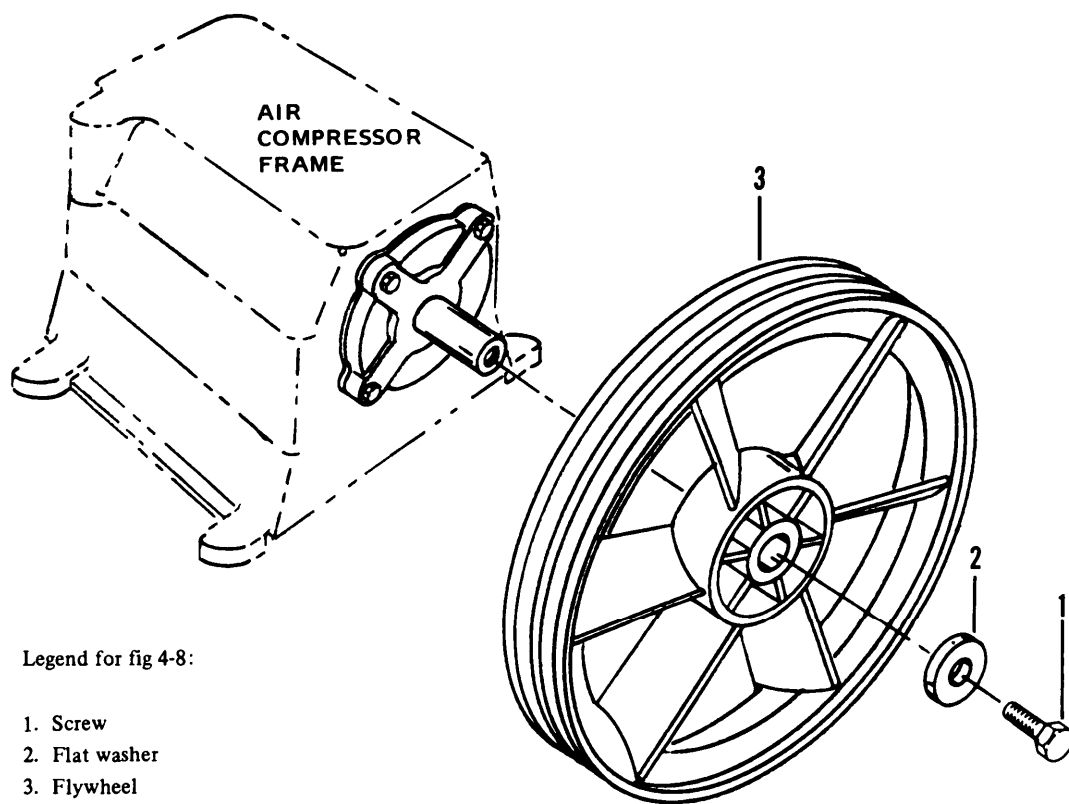

Figure 4-8. Flywheel
a. **Inspection.** Inspect flywheel (3, fig 4-8) for breaks, chips, and cracks in belt grooves and fan ribs. Any damage is cause for replacement.
Flywheel screw (1, fig 4-8) is left-hand thread. Turn clockwise to remove and counterclockwise to install.
b. **Replacement.** Unscrew and remove screw (1, fig 4-8) and flat washer (2). Tap hub of flywheel (1) lightly with a soft-type hammer to free from crankshaft or use a suitable puller. Install new flywheel (1) on crankshaft, install flat washer (2) and secure with screw (1). Torque screw (1) to 33-37 ft-lbs (4.6 - 5.1 kgs-m).